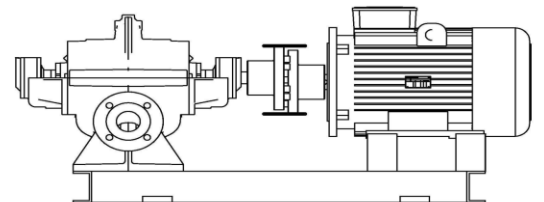

Figure 3 -4 Parallel Shifting error in vertical plane and correction
- Form and order of clutch adjustment are displayed in Figures 3 -1, 3-2,3-3 and 3-4. **ATTENTION:** Adjustments should be checked after changes. Because an adjustment which is made in one direction may make other adjustment in other direction faulty.